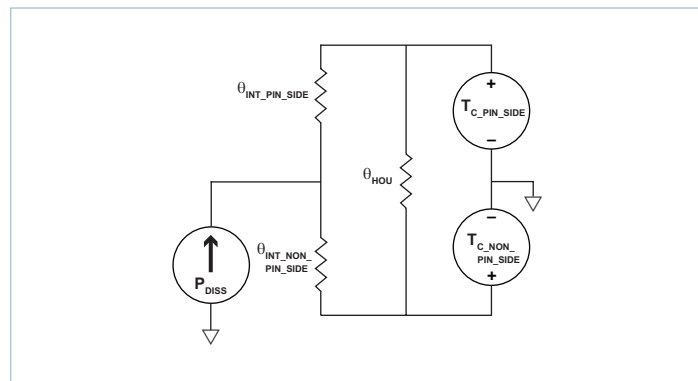
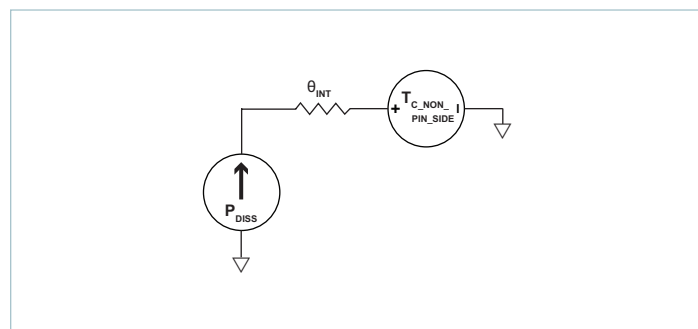

Figure 21 — Double-sided cooling thermal model
Figure 22 — Single-sided cooling thermal model
determining the maximum power that can be processed by a PFM, as can be seen from specified thermal operating area on Page 5. Since the PFM has a maximum internal temperature rating, it is necessary to estimate this internal temperature based on a system-level thermal solution. To this purpose, it is helpful to simplify the thermal solution into a roughly equivalent circuit where power dissipation is modeled as a current source, isothermal surface temperatures are represented as voltage sources and the thermal resistances are represented as resistors. Figure 21 shows the "thermal circuit" for the PFM in a VIA package.
- Single-side cooling: the model of Figure 21 can be simplified by calculating the parallel resistor network and using one simple thermal resistance number and the internal power dissipation curves; an example for non-pin-side cooling only is shown in Figure 22.